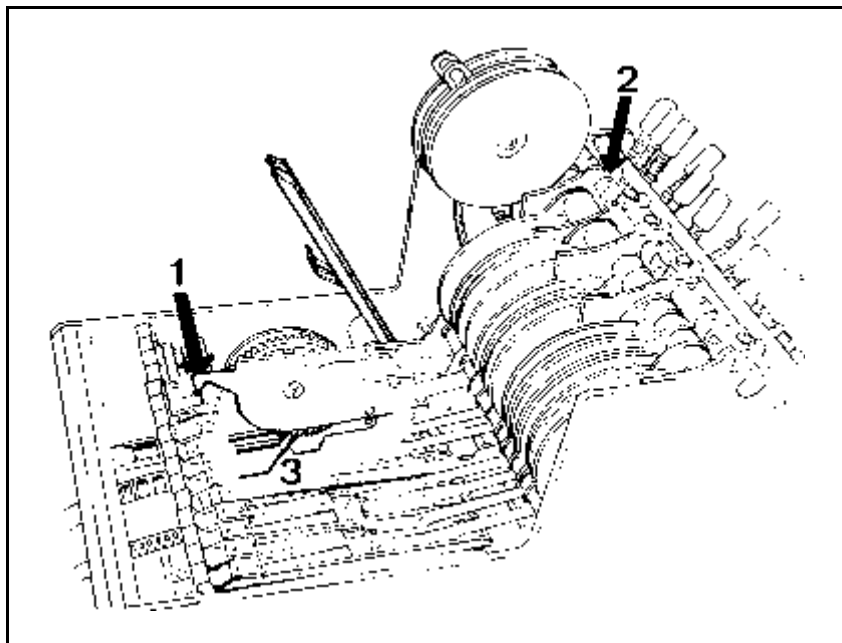

Figure 4-33. Inserting the feeder mechanism
1. Hold the cover tape take up reel and the pick-up rail and position the feeder in the magazine. First, position the lower bracket to the axle groove ('1' in Figure 4-33) and then the upper bracket (2).